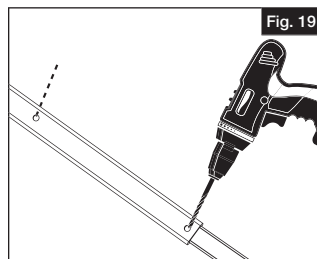

Fig. 19
- Pre-drill though the two provided brace holes with $\frac{1}{8}$ " drill bit. Then, secure brace together at the measured length with provided #8 x $\frac{3}{4}$ " blunt end screws (2) in the center of the brace (Fig. 19).